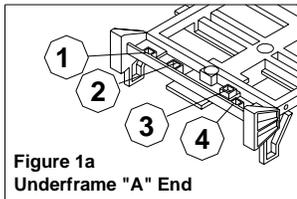

Figure 1a
The car is shipped with the interior (PN0367) installed into the body (PN0368). One end of the interior (PN0367) has four holes located near the corner. Both ends of the underframe (PN0369) have four receptacles. See **Figure 1a & 1b**. The interior (PN0367) shall have the four holes and at the "B" end. If necessary, reposition the underframe (PN0369).
Step (2). Locate the ladder marked "D" on the detail parts sprue. This is the tall end ladder (PN0370). Remove the part from the sprue. Place the long leg into the underframe (PN0369) location marked "1" in **Figures 1a & 1b**. Apply cement. Plug the top of the tall end ladder (PN0370) into the appropriate holes in the interior (PN0367). Repeat this step for the opposite corner.